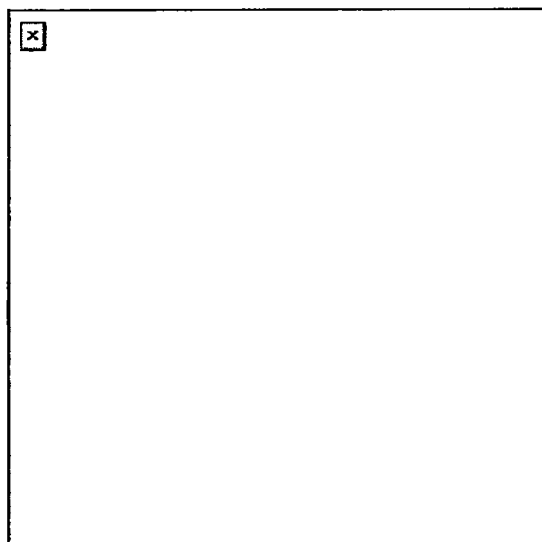

Figure 191-381-1325-1
**Check Department of Defense (DD) Form 2707 for Completeness and Accuracy**
2. Verify the information on the inmate's completed DD Form 2707 (Figure 191-381-1325-1). Verify—